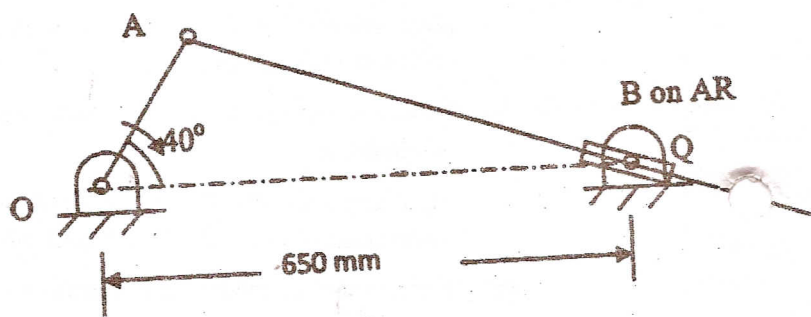

Fig. 1
(ii) For the position of the mechanism shown in Fig. 1, calculate the angular velocity of link AR. OA is 300 mm and rotates at 20 rad/s in the clockwise direction. (7)